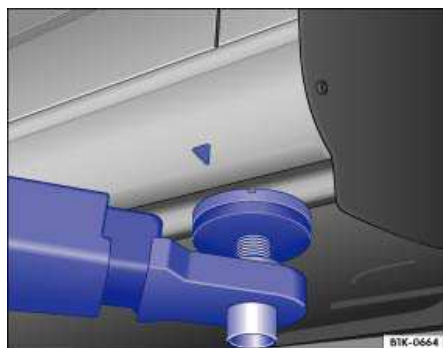
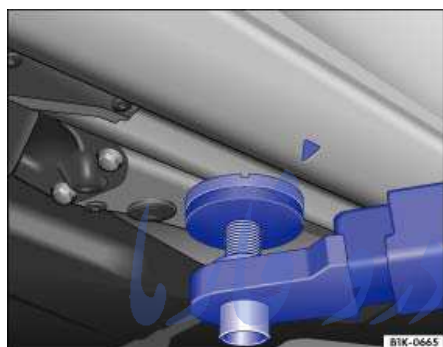

Fig. 150 Front lift point for workshop hoist or floor jack.
Fig. 151 Rear lift point for workshop hoist or floor jack.
The vehicle may only be raised at the lift points shown in illustrations ⇒ fig. 150 and ⇒ fig. 151. If the vehicle is lifted at different points, vehicle damage ⇒ ⚠ and serious injuries may occur ⇒ ⚠.
- Always lift your vehicle only at the designated lift points shown in the illustrations ⇒ fig. 150 and ⇒ fig. 151. Not using the designated lift points can cause the vehicle to fall off the floor jack when heavy parts such as the engine or transmission are removed.